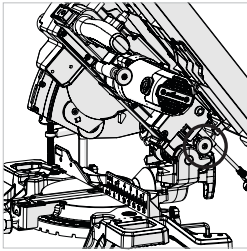

Fig. 5
- Pull out the cutting head latching pin and allow the cutting head to rise to its upmost position. (Fig. 5)